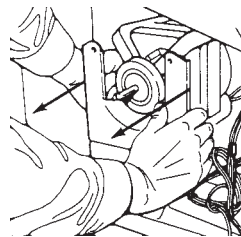

Fig. 4-23
4. Slide motor to right, out of slots, and pull forward out of dryer. (Fig. 4-23)